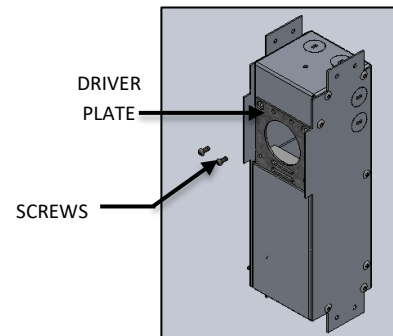

FIG. 8- DRIVER PLATE DISASSEMBLE
3. Remove the Screws securing DRIVER PLATE, and slide DRIVER PLATE out of J-BOX as shown in FIG. 8.